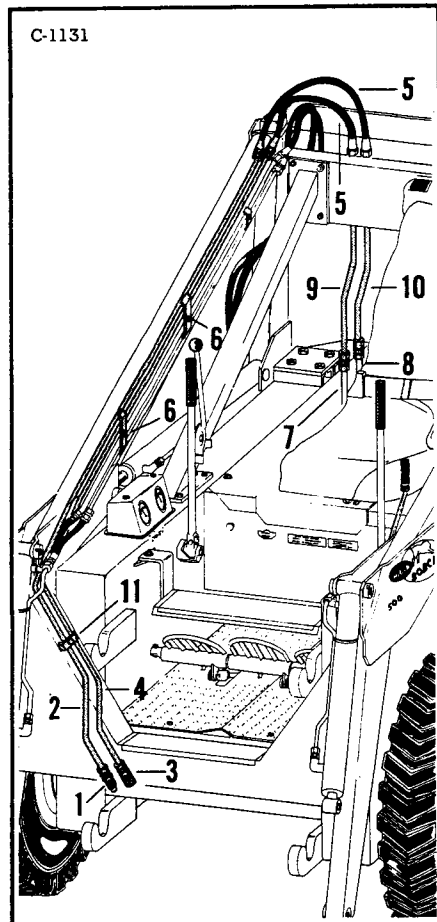

Fig. 168 Mounting Auxiliary Kit
2. With two 1/2" NPT x 1/2" 37° Flare straight adapters connect the male half of the quick coupler (Figure 168, Item 1) to the longer tube (Item 2) and the female half of the quick coupler (Item 3) to the shorter tube (Item 4) and tighten securely.